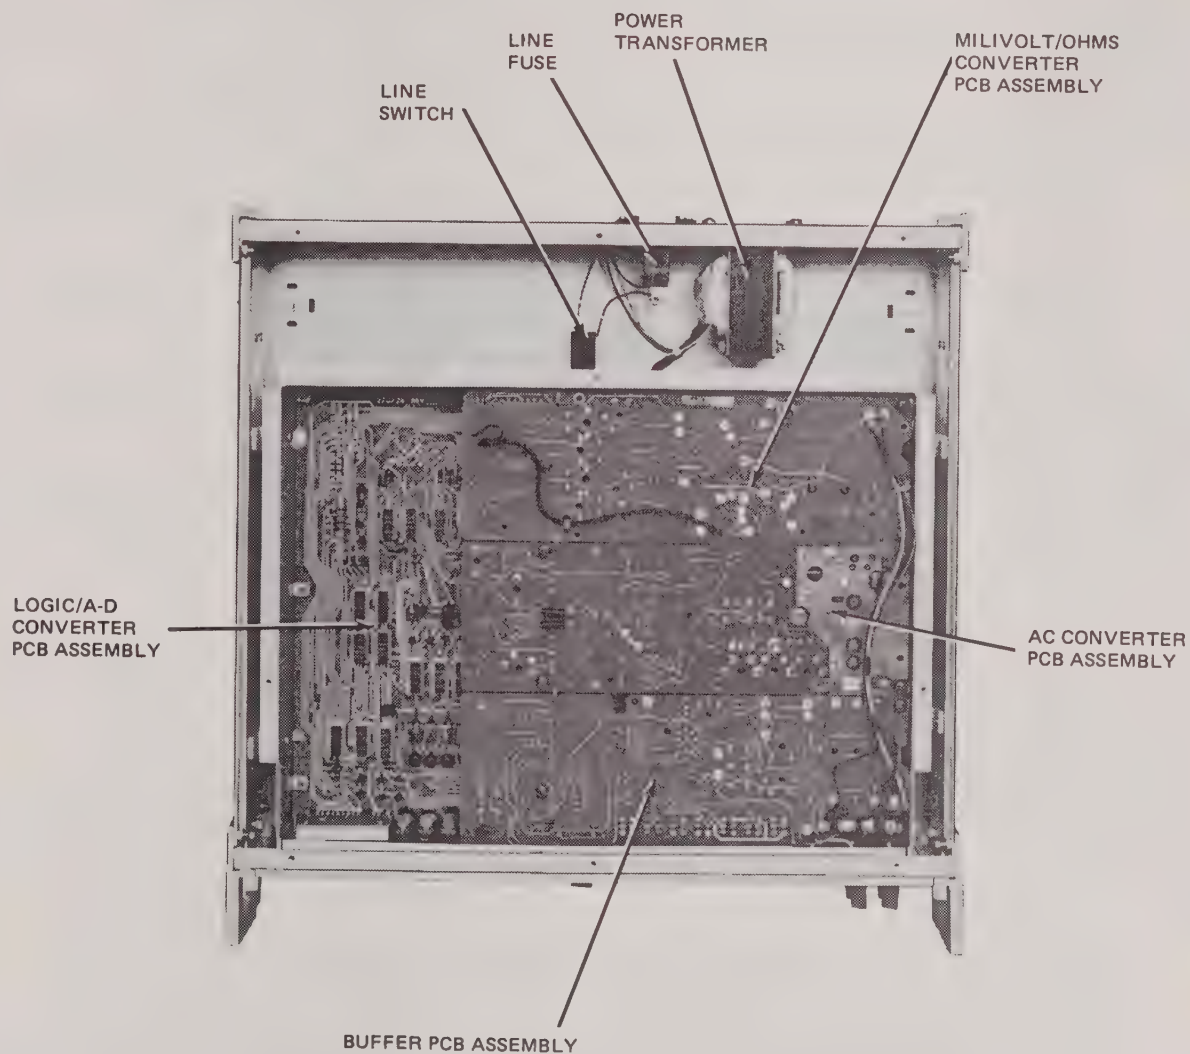

Figure 4-2. ASSEMBLY LOCATIONS
- a. Remove the top and bottom dust covers to gain access to calibration adjustments and test points of the instrument. See Figure 4-2.